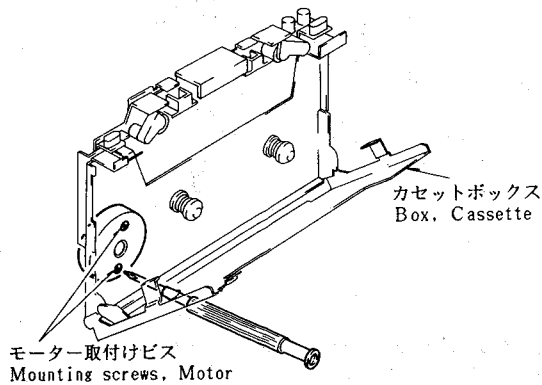

Fig. 7
- 3) Remove 2 screws holding the motor through the hole in the cassette box and pull out the motor. (See Figure 7)